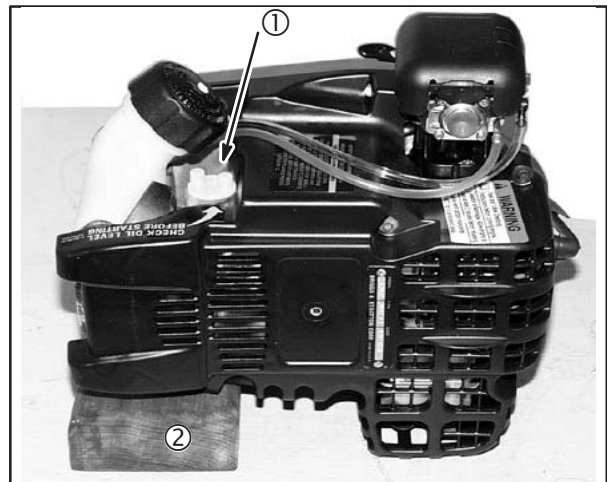

Fig. 1
1. Place the warm engine with the dipstick facing up. If necessary use a support (2) to level the engine, Fig. 1.